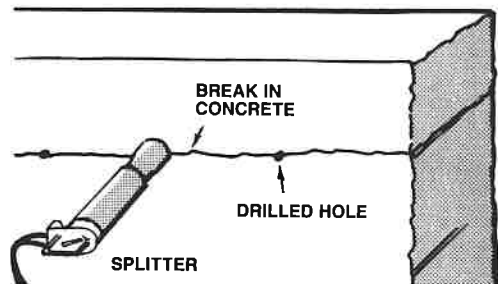

FIG. 3
6. To remove the pier top, a number of holes were drilled across the top. (See Fig. 3) Using several splitters, a split was made across the width.